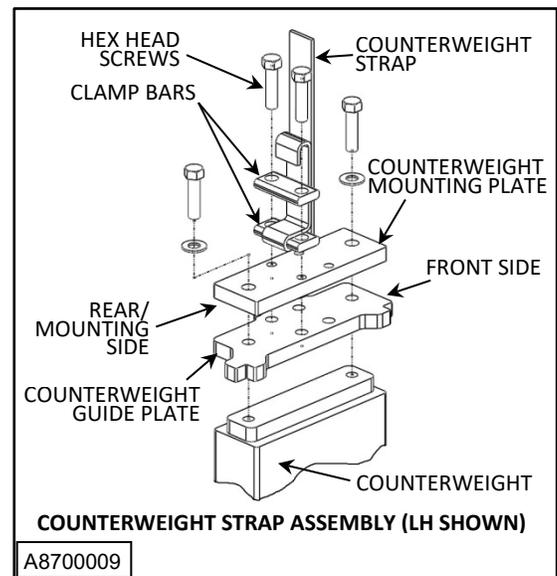

Figure 51
7. Loosen the hex head cap screws to release the clamp bars that secure the strap to the counterweight. (See Figure 51)